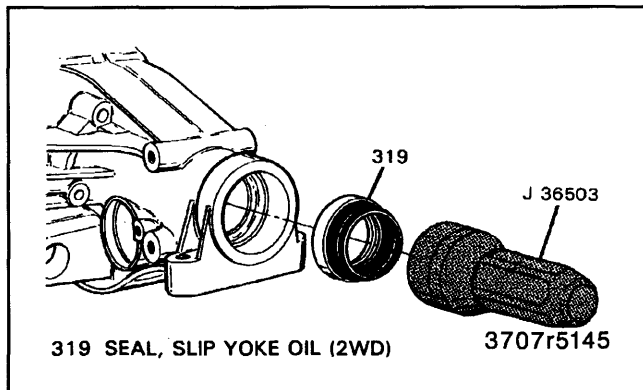

Figure 6—Extension Housing Seal Installation (2WD Models)
Install or Connect (Figure 6)
1. New seal, using J 36503 (figure 6).